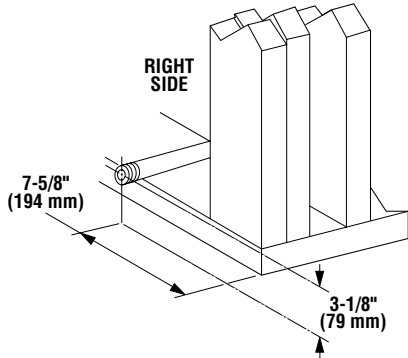

Figure 8
Step 2. Route gas line (**Figure 8**) using techniques and materials prescribed by local and/or national codes. It is recommended that a gas line of 1/2" or greater diameter be used to allow full gas volume to the fireplace. Undue pressure loss will occur if the pipe is too small. The appliance, as set up at the factory, is best suited for use with a gas line routed from the right side. The gas line may however be alternately routed from the left side.